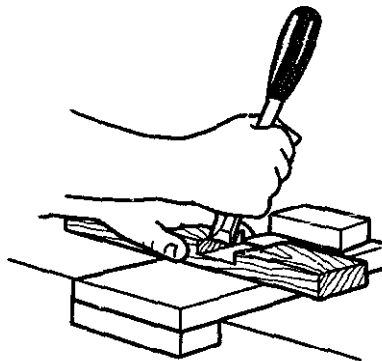

Fig. 9-29 Trimming with a wood chisel.
**SAFETY NOTE:** The work is held with the left hand while the chisel edge is guided by the right hand to act like a knife. The position of the chisel and the way the work is held in figure 9-29 shows that this could be a dangerous situation. Do not rush. Be careful to keep fingers well away from the cutting line of the chisel.